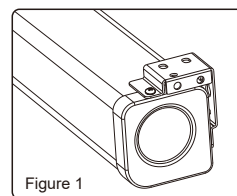

Figure 1
2. There are two way for wall brackets to fix on the housing. As you can see on the Figure 1, which is our normal fixed way (namely factory set). While the other fixed way is to interchange the left and right wall brackets, and then fix onto the housing (namely functional installation way, as Figure 2).
Using a tape measure, measure the distance between the two keyholes on the casing (Figure 1). According to the measurement, use the drill to drill identical holes of the appropriate size on the wall (use a smaller drill bit than the actual screws) and ensure that it is level (Figure 2 & 3). Screw in the appropriate screws, either 5 x 40 by itself for wood walls or with anchors for drywalls, leaving enough space at the end to hang the casing (Figure 4). To ensure that the screen is level, use a level to check (Figure 5).
Using a tape measure find out the distance between the two keyholes on the casing ( Figure 1 ). According to the measurement, use the drill to drill identical holes of the appropriate size on the ceiling and ensure that it is level ( Figure 2 & 3 ). Screw in the hook screws ( not provided ), and lift the screen into the hook screws to hang ( Figure 4 ). To ensure that the screen is level, use a level to check ( Figure 5 ).
Using a tape measure, measure the distance between the two keyholes on the casing ( Figure 1 ). According to the measurement, use the drill to drill identical holes of the appropriate size on the wall ( use a smaller drill bit than the actual screws ) and ensure that it is level ( Figure 2 & 3 ). Screw in the appropriate screws, either 5 x 40 by it self for wood walls or with anchors for drywalls , leaving enough space at the end to hang the casing ( Figure 4 ). To ensure that the screen is level, use a level to check ( Figure 5 ).